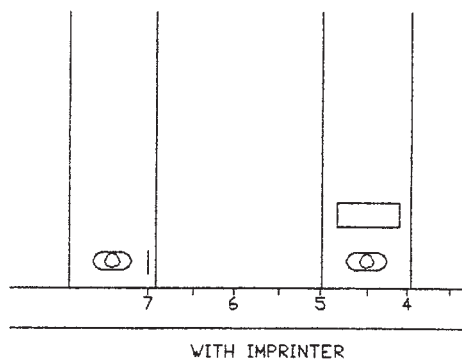

FIG 20
4. To assure that the Burster rollers are timed, rotate the forms advance handwheel until the "timing marks" appear simultaneously through the slots in each roller cover. (See Fig. 20).